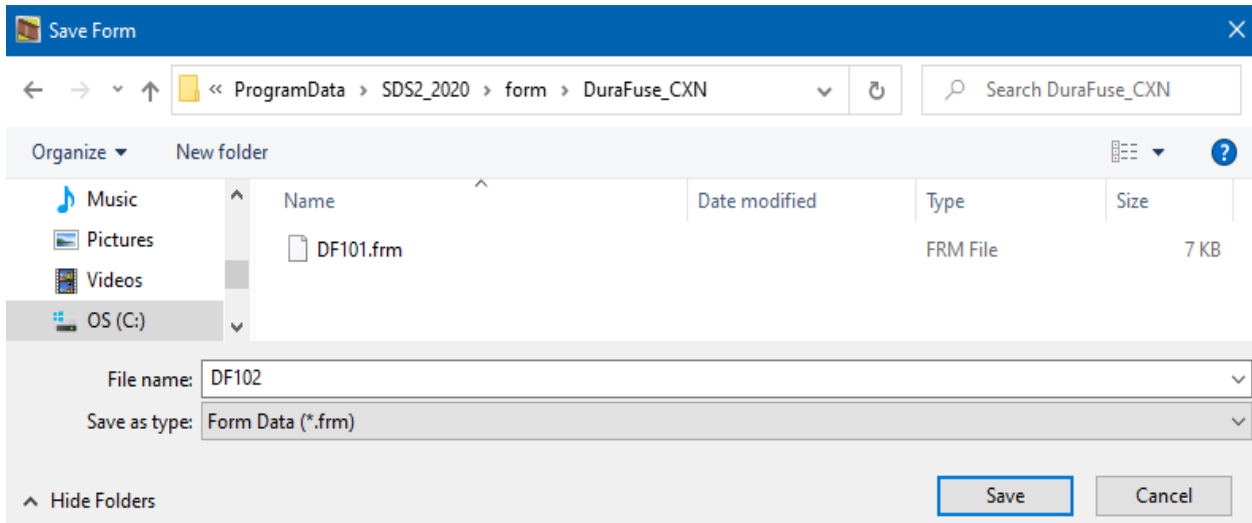

Figure 31. Save Form Dialog
3. Choose the location to save and name it after the connection ID, see Figure 31.